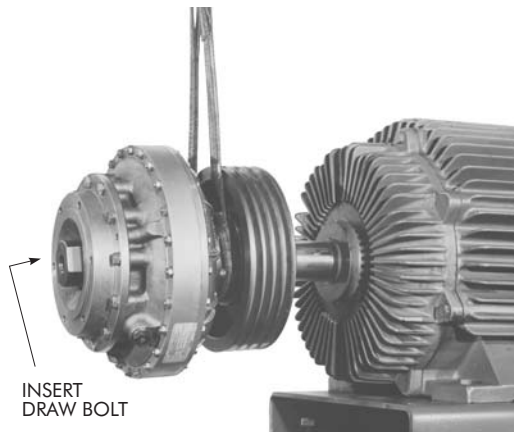

Figure 4
- Support fluid coupling weight and slide coupling onto collet taper, being sure proper alignment and engagement is obtained (Figure 4). Be sure collet and key have not moved axially as this could cause the key to ride up the shaft keyway end ramp and cause runout and vibration. Continue to support fluid coupling through steps C & D.
- Insert collet draw bolt with locking and flat washers through hole in input shaft and thread into tapped hole in collet (Figure 4).